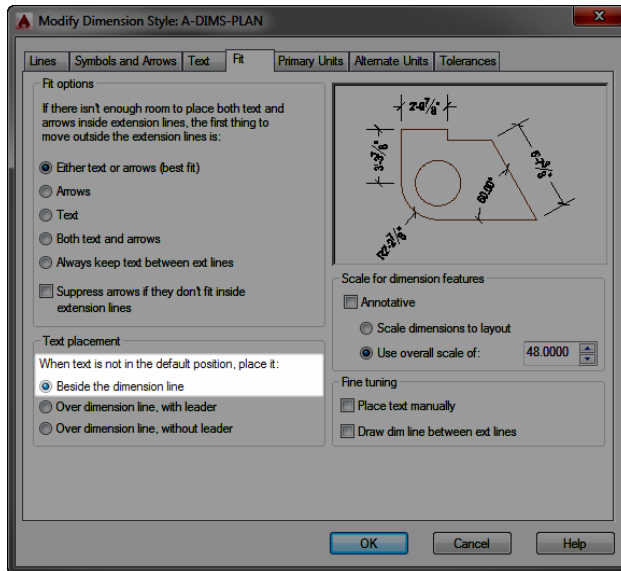

FIGURE 12.55: The Fit tab of the Modify Dimension Style dialog box after making the change
7. In the Text Placement group, select the Beside The Dimension Line radio button (see Figure 12.55).